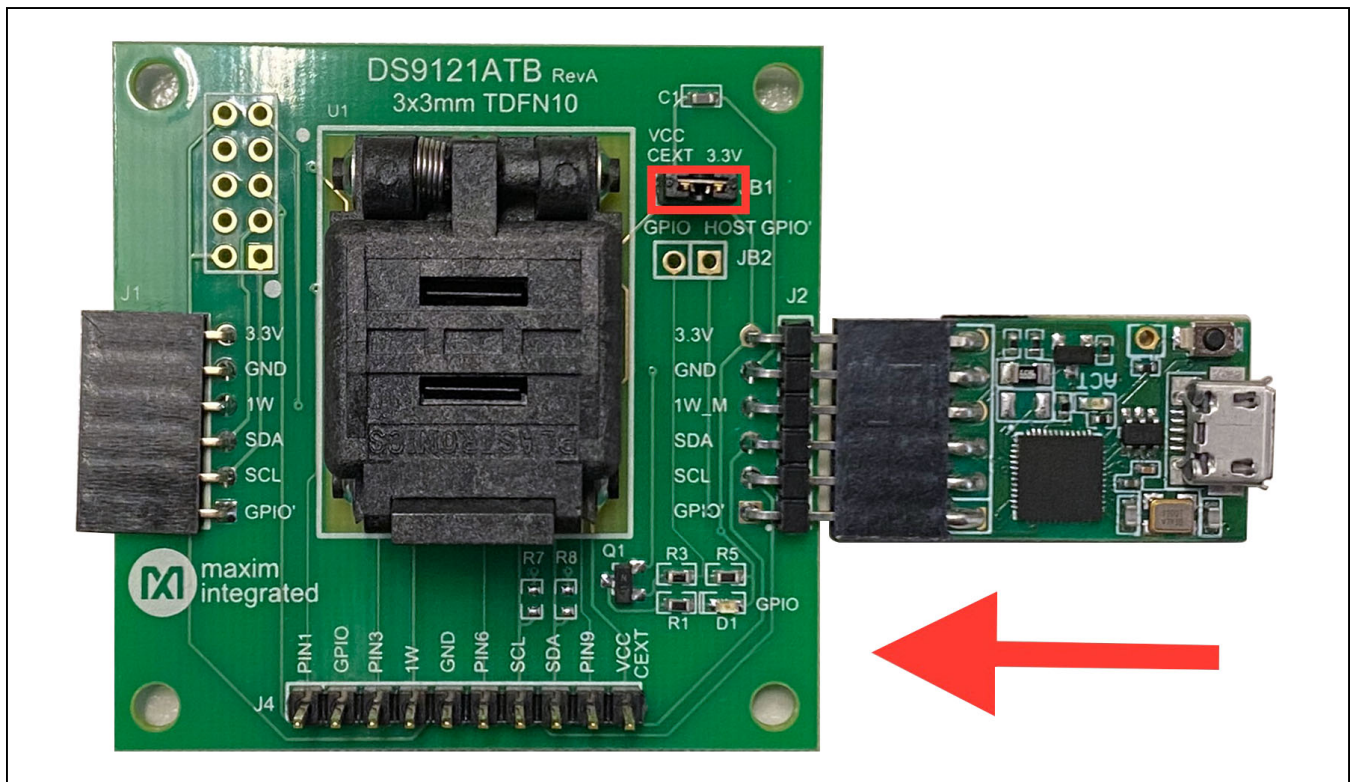

Figure 7. DS9481QA-300 and DS9121ATB
- c) Connect the DS9121ATB+ J2 6-pin male plug into the DS9481P-300# 6-pin female socket, as shown in Figure 7.
- d) For the DS9121ATB+, Insert jumper JB1 to use VCC (Figure 7).